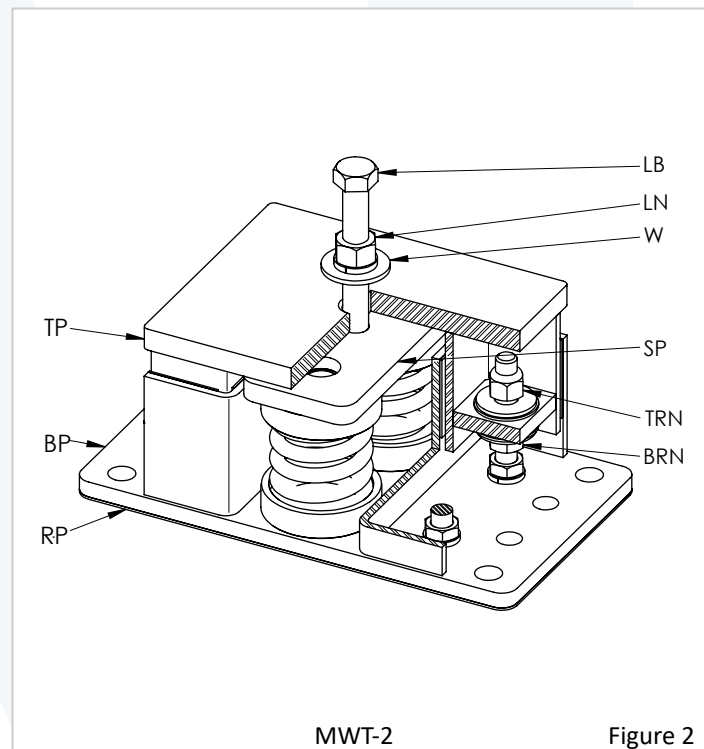

Figure 2
5) Screw the leveling bolts (LB) into the center threaded hole of the top plate (TP) of each spring mount. Turn the leveling bolts clockwise until they sit inside the spring plate's (SP) pockets, as shown in Figure 2.
11) After the equipment's leveling is complete, run down the lock nut (LN) with washers (W) and tighten them onto the equipment's base, as shown in Figure 2.